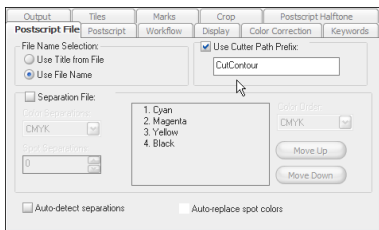

Figure 4—Use Cutter Path Prefix
5. In the Advanced Options dialog go to the Postscript File tab and enable the **Use Cutter Path Prefix** option (see Figure 4).